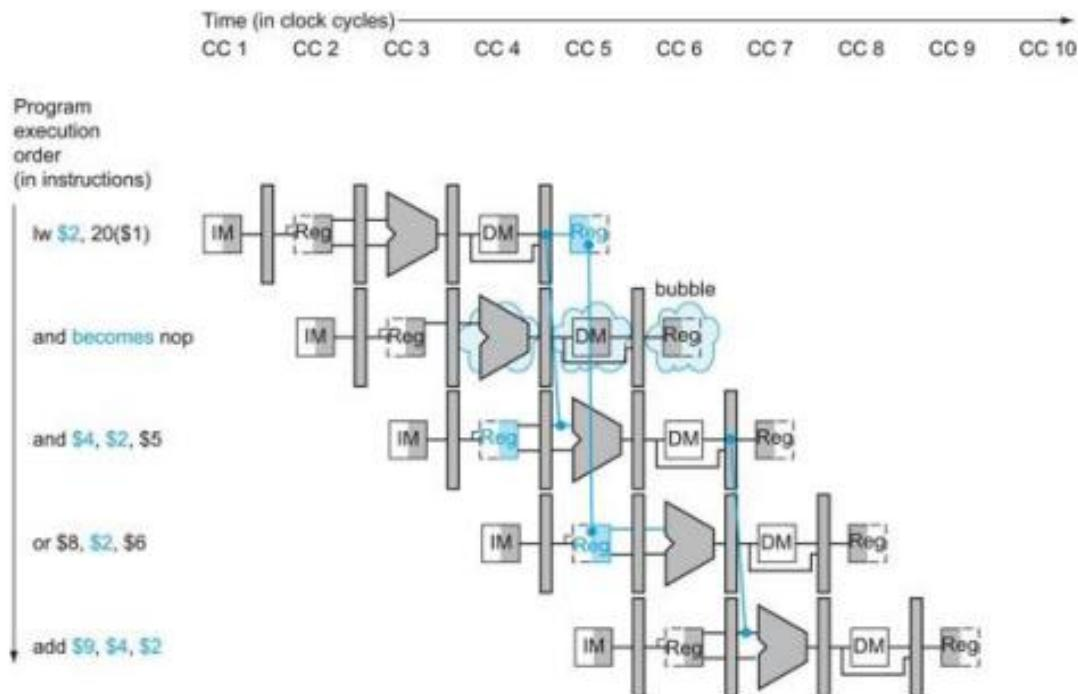

FIGURE 4.59 The way stalls are really inserted into the pipeline.
- d. [10] If there is forwarding, for the first seven cycles during the execution of this code, specify which signals are asserted in each cycle by hazard detection and forwarding units in Figure 4.59.
- e. [5] If there is no forwarding, what new input and output signals do we need for the hazard detection unit in Figure 4.59? Using this instruction sequence as an example, explain why each signal is needed.